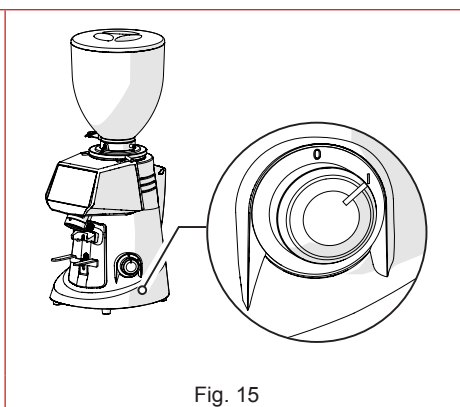

Fig. 15
- Turn the machine power switch (Fig. 15) to the “I” position.